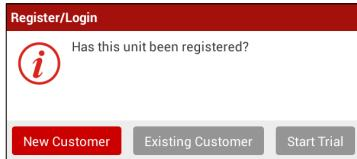

Fig. 5-5
- B. If you are a new user and want to register your tool directly, tap “New Customer” in Fig. 5-5 to start your registration. See Chapter 5.5.1 for details.
- C. If you have registered your X-431 PADII, tap “Existing Customer” in Fig. 5-5 to login directly.
- A. Tap “New Customer” in Fig. 5-5 to enter Fig. 5-9; Or